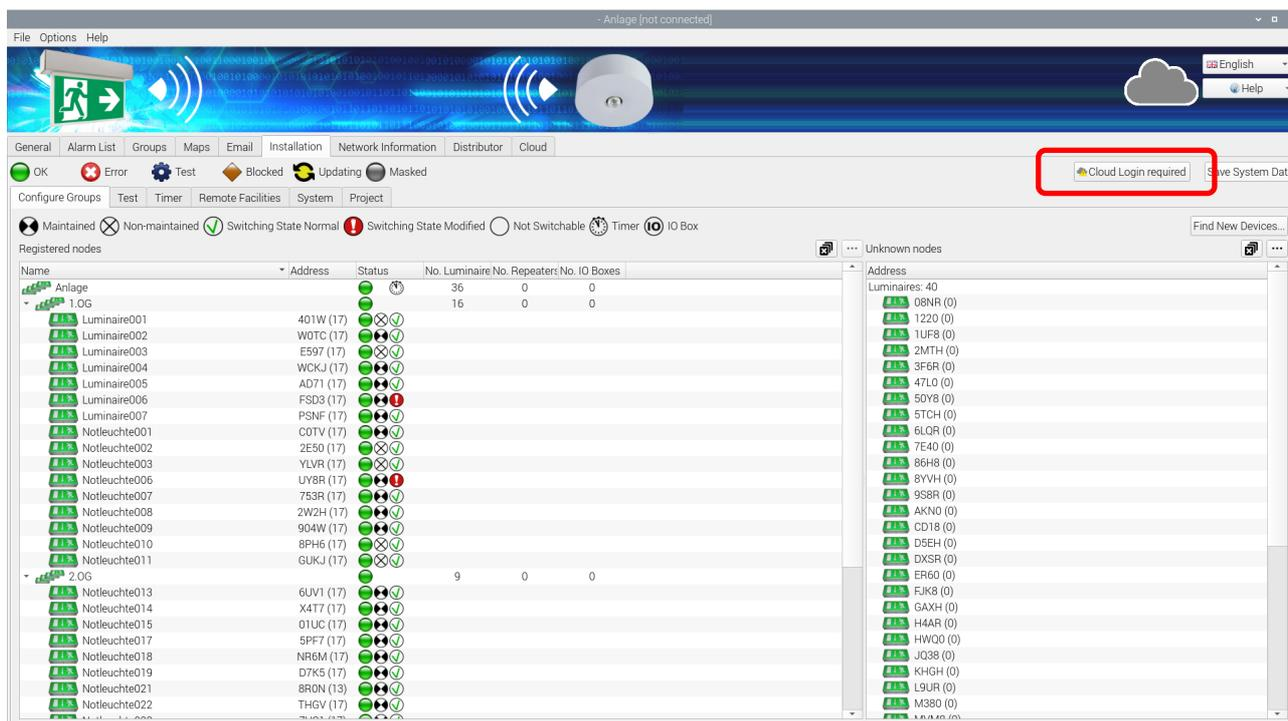

Figure 46 Installation area, personalised cloud login required
**Note:** Because a personalised login is undertaken when activating the cloud connection, the WirelessProfessional software receives extended rights for a limited period (24 hours). These are needed not only to log the control centre onto the cloud but also for certain additional actions (such as cloud synchronisation when adding/deleting devices or maps). If these actions are undertaken after this time window has lapsed, another personalised login will be needed. In this case, the WirelessProfessional software displays a note in the top right on the relevant tab view informing the user that a personalised login is needed, see Figure 46 Installation area, personalised cloud login required. Log in to the cloud as described in Section 7.3.